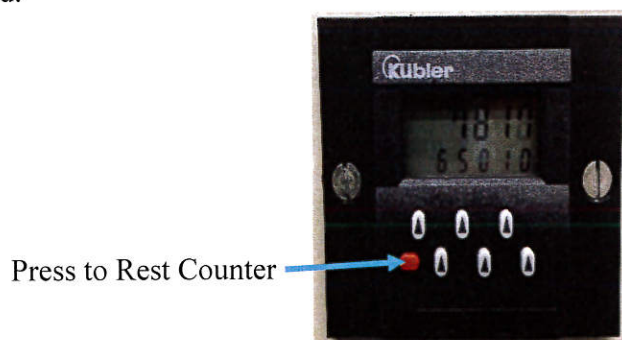

Figure 1: Counter control panel.
- 6.1.7. **Reset the Counter.** Press the Red button on the counter to reset component count, as shown in Figure 1: